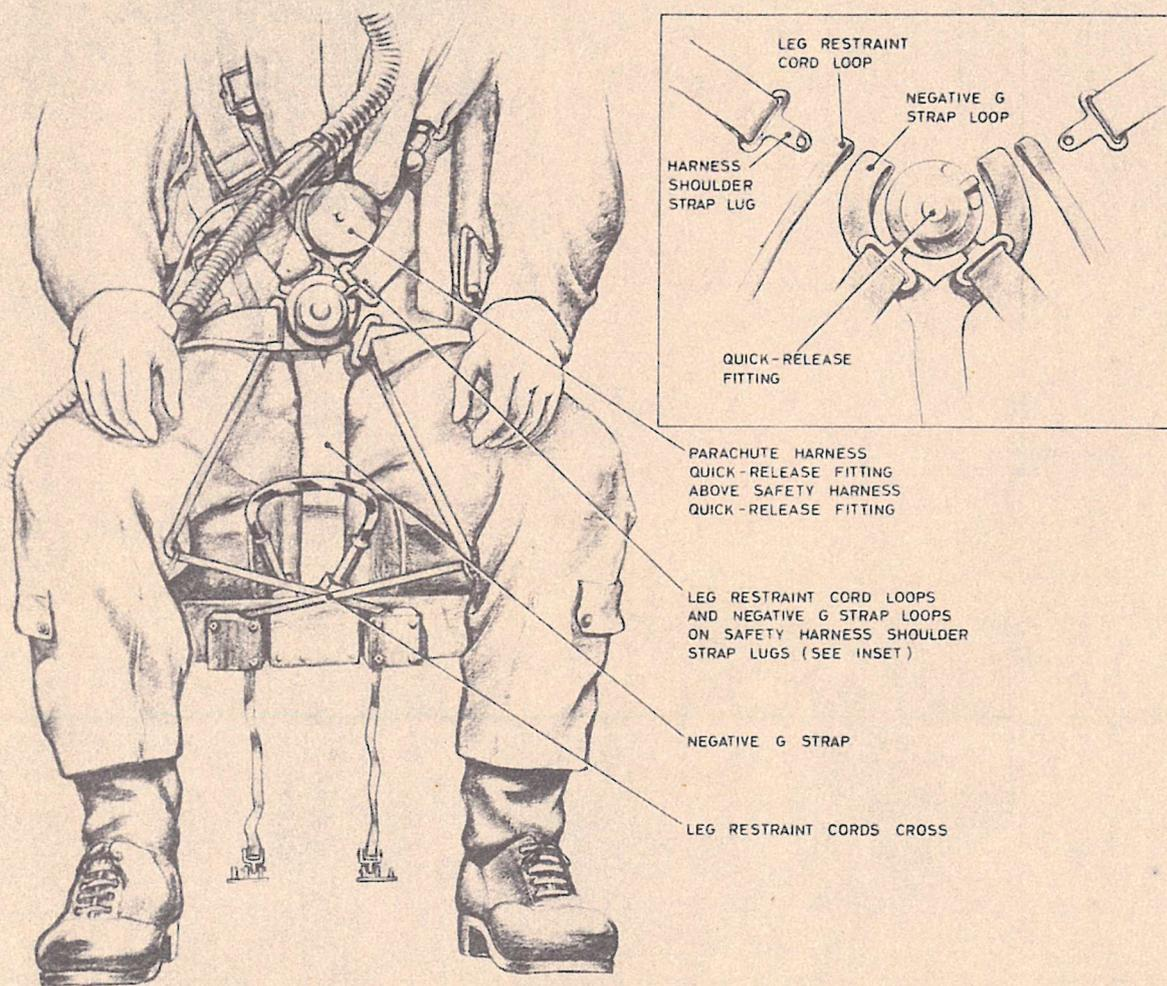

Fig. 4. Arrangement of leg restraint cords (inset: Assembly to quick-release fitting)
22. The strapping-in procedure for the pilot is as follows; refer to fig. 4 to 6 for detail as necessary :-
- (8) Tighten the shoulder straps first so that the parachute harness quick-release fitting will lie above and clear of the safety harness quick-release fitting when assembled.
- (9) Tighten the parachute harness leg straps. When tightening harness straps, pull on the running end with one hand and push on the standing end with the other hand to relieve the tension on the buckles.
- (10) Connect the air supply hose to the air ventilated suit (if worn).
- (11) Fasten the lap straps of the safety harness but do not tighten.
- (12) Draw the negative-G restraint strap up between the legs and tuck the V-shaped end under the safety harness lap straps. Ensure that the negative-G restraint strap is clear of the seat pan firing handle.
- (13) Thread the leg restraint cords through the quick-release coupling rings on the garters as follows :-
- (a) Pass the cord emerging from the snubbing unit behind the left leg through the garter ring on the right leg and UNDER the safety harness lap strap. Insert the lug of the safety harness right shoulder strap through the loop at the end of the leg restraint cord and also through the loop at the end of the right branch of the negative-G restraint strap. Secure the lug in the quick-release fitting (see inset of fig. 4).
- (14) If there is insufficient leg restraint cord, press and hold the plunger under the snubbing unit and draw the cord upwards; if there is too much, draw any excess downwards through the unit (it is unnecessary to press the plunger in this instance).
- (15) Tighten the safety harness lap straps first, then tighten the shoulder straps and tension the negative-G restraint strap.
- (16) Connect the main and emergency oxygen supply to the mask tube assembly and the locating chain to the life-jacket.
- (17) Connect the Mic/Tel lead.
- (18) Adjust the height of the seat. Ideally, the head is to be located in the centre of the headrest cushion.
- (19) Reach upwards and check that the face screen firing handle is within easy reach; DO NOT PULL.
- (20) Ensure that the chin straps of both helmets are fastened, fit the oxygen mask and perform pre-flight oxygen checks.